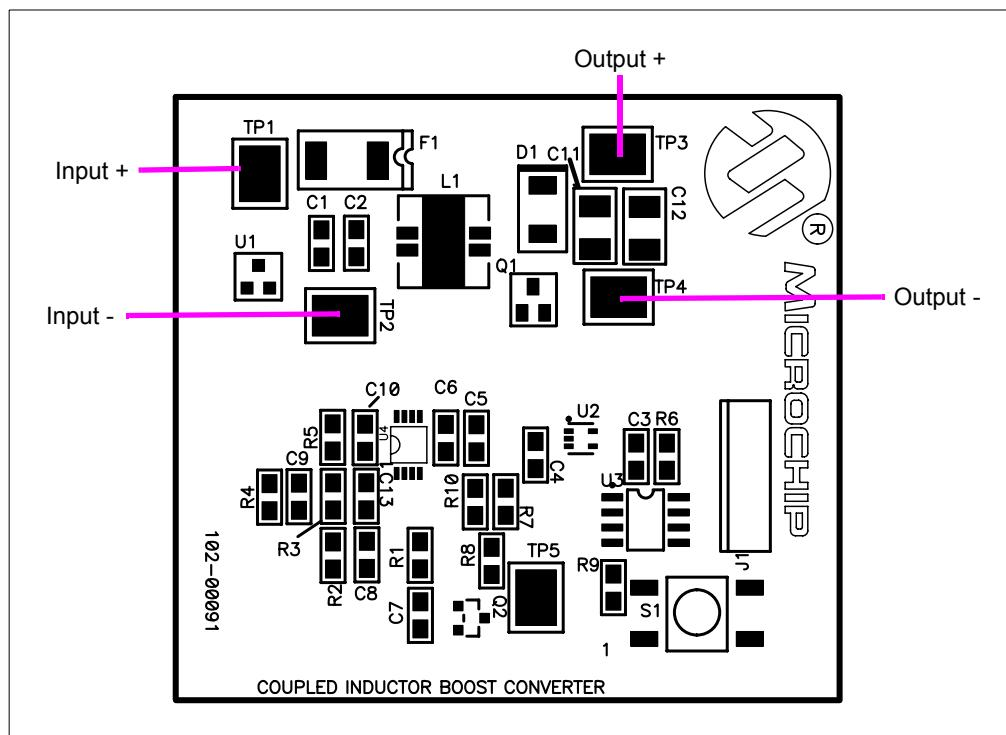

FIGURE 2-1: Setup Configuration Diagram.
1. Connect the positive side of the input source (+) to TP1. Connect the negative or return side (-) of input source to TP2. Refer to Figure 2-1. The input voltage source should be limited from 3.0V to 5.5V range. As the input voltage is applied and the system powers up, the firmware program of the PIC12F683 device will initialize and help the converter remain in low-power sleep mode (<0.1 μ A) until the S1 push button is pressed for > 2 seconds by the user. If the S1 push button is pressed for less than 2 seconds, the converter will not power up.